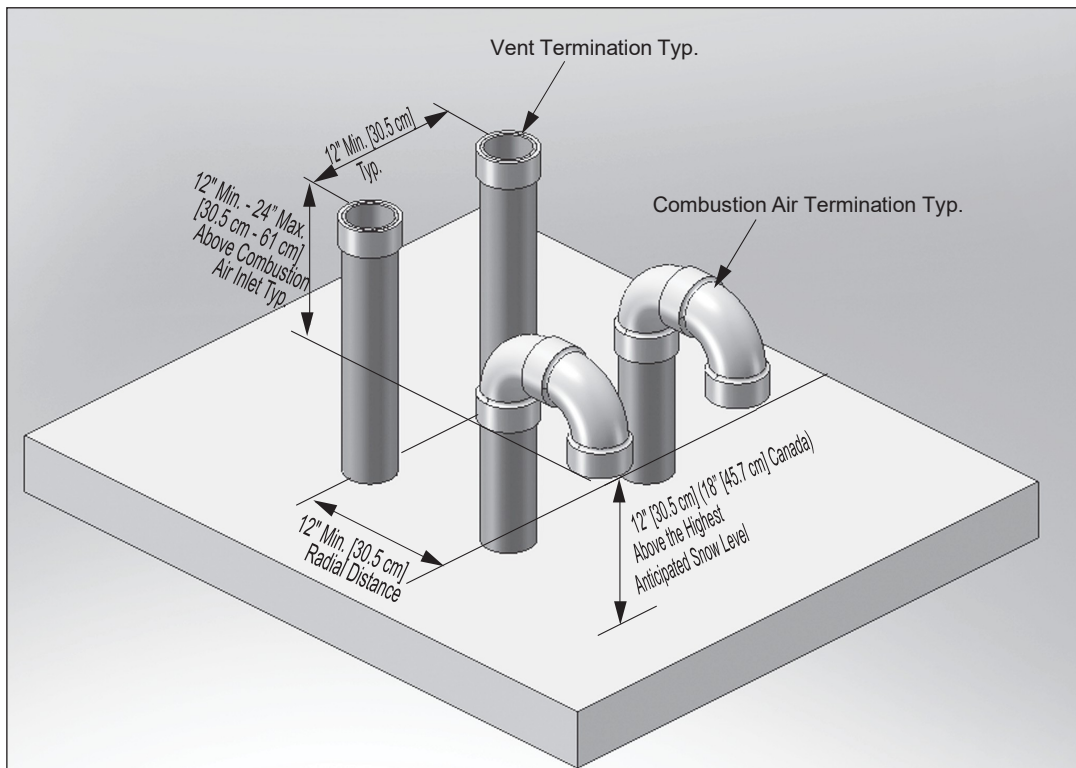

Fig. 5 - Direct Vent - Vertical Termination of Multiple INSTINCT Boilers
2. The roof penetration of the vent and combustion air piping must be such that the combustion air inlet is a minimum 12" [30.5 cm] from the adjacent vent pipe of the other boiler for installations in the U.S. as shown in Fig. 5 on page 14. For installations in Canada, provide clearances as required by CAN/CSA B149.1.